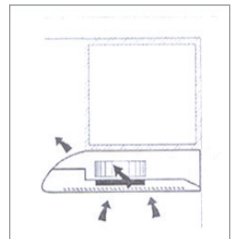

Fig. 9
*In case of version where air outlet from the front part is supported remove the special cover. (Fig 9)